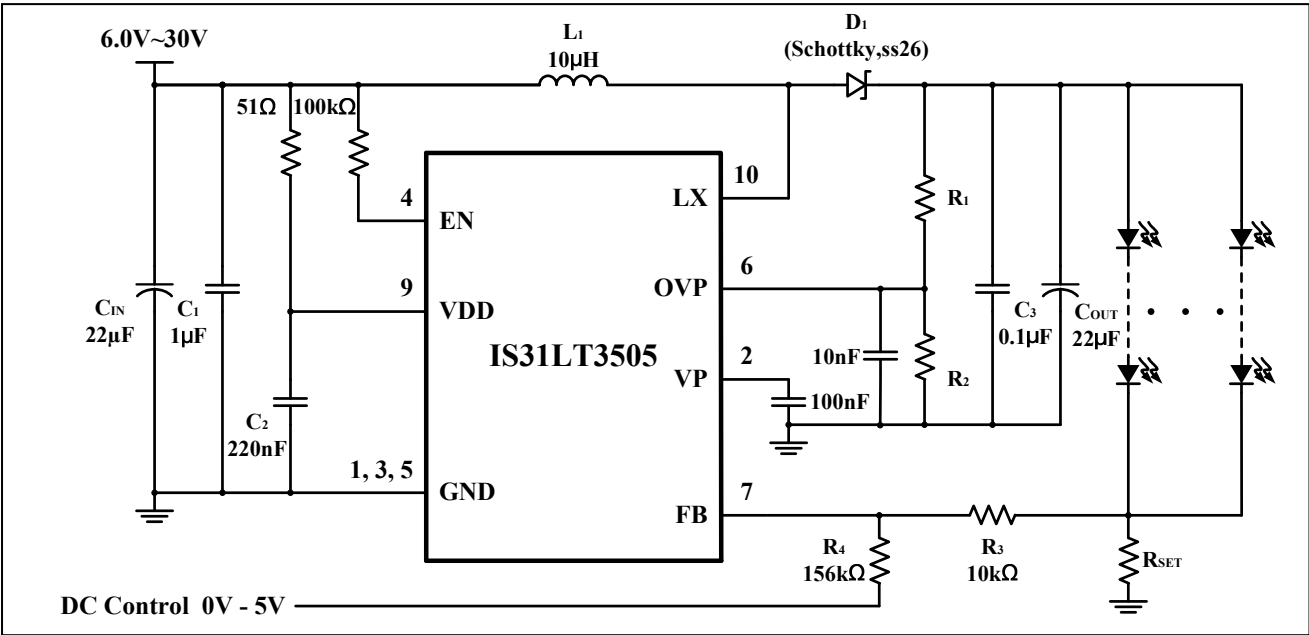

Figure 14 Application Circuit (Constant Current to Drive White LEDs With DC Dimming)
IS31LT3505 can modulate the brightness of LEDs by controlling the DC voltage or the PWM duty cycle (Figure 14, 15).
Figure 14 shows that the intensity of the LEDs can be adjusted by the DC voltage. As the DC voltage increases, the current pass through R3 increasing and the voltage drop on R3 increase, i.e. the LED current decreases. The LED current can be calculated by the Formula (2). The internal feedback voltage V_{FB} is 0.3V (Typ.).
When the DC voltage is from 0V to 5V, the value of R3 should be 10k Ω . Refer to Figure 14.